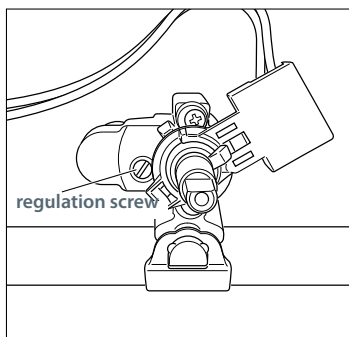

Fig. 13 Adjusting the minimum burner setting.
- 4 Using a small flat screwdriver, turn the screw (see Fig. 13) to the correct regulation.